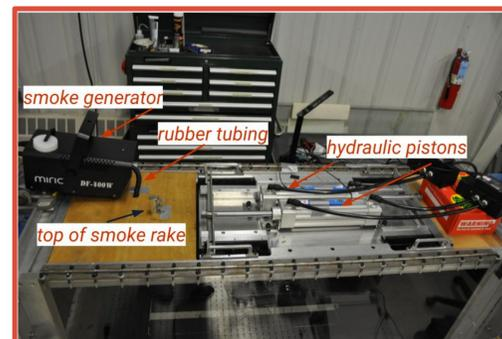

Fig. 1. The complete wind tunnel setup from above.
- This goes below the testing section of the tunnel, so it is out of sight and unlabeled for Figures 1 & 2.